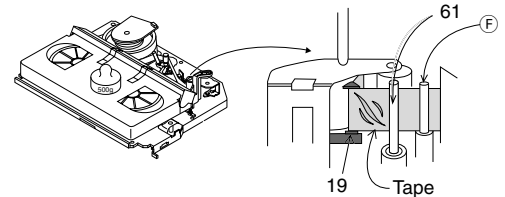

Fig. 29
- With the tilt adjustment screw (Pos. 220, Fig. 30) position the lower edge of the tape correctly on the guide roller ( Fig. 29) (the tape must not curl at the lower edge).